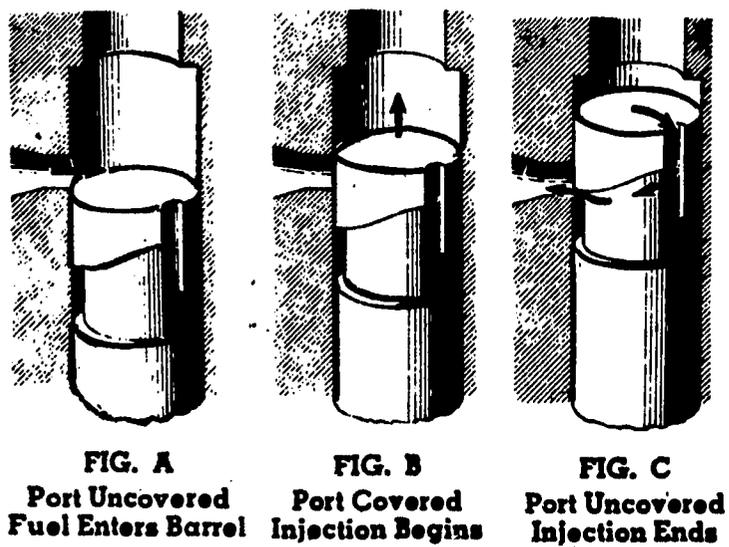

Fig. 2 Helix positions.
Parts (a), (b), and (c) of Figure 2 illustrate the functioning of an injection pump as the plunger makes a stroke.
In Figure 2 (a) the plunger is down and the inlet port (1) is uncovered. Fuel flows into the space above the plunger through the slot and into the recess around the plunger.
In Figure 2 (b) the plunger has started up and the port is covered. The fuel is trapped, and will be forced through the check valve, fuel line, and injection valve as the plunger moves upward.
In Figure 2 (c) the plunger has risen until the port is uncovered by the recess in the plunger. The fuel can now escape back through the port into the fuel manifold, and injection will cease.
Action of the plunger in different positions can be seen in Figures 2 and 3. Rotation of the plunger varies its effective stroke and, therefore the quantity of fuel oil injected into the combustion chamber, or pre-combustion chamber. When the plunger is rotated until the slot registers with the port, as shown in the extreme right, no injection occurs.